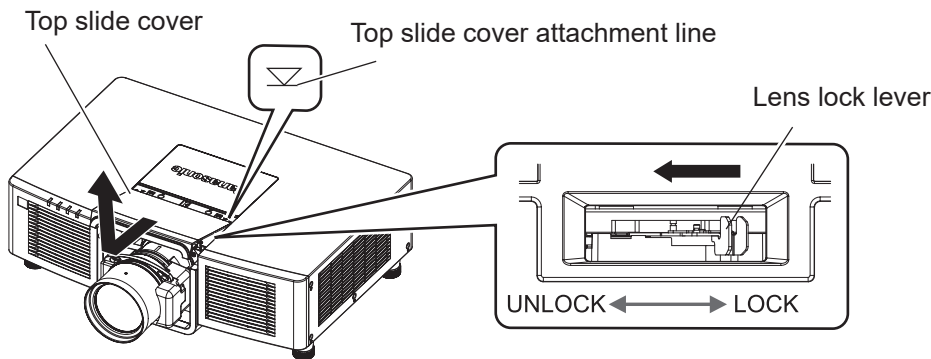

Fig. 3
2) Remove the top slide cover. (Fig. 3)
5) Attach the top slide cover. (Fig. 3)